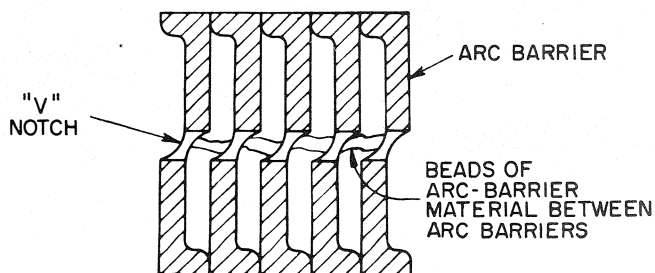

Fig. 22. Arc barriers with connecting beads
2. The vanes should be checked for continuous beads resulting from the gutting which makes a continuous path across more than a few vanes (3) of the arc chute. (See Fig. 22.) These beads offer a current-conducting path which reduces the length of the interrupting arc. Any vanes with the continuous bead between them must be replaced.